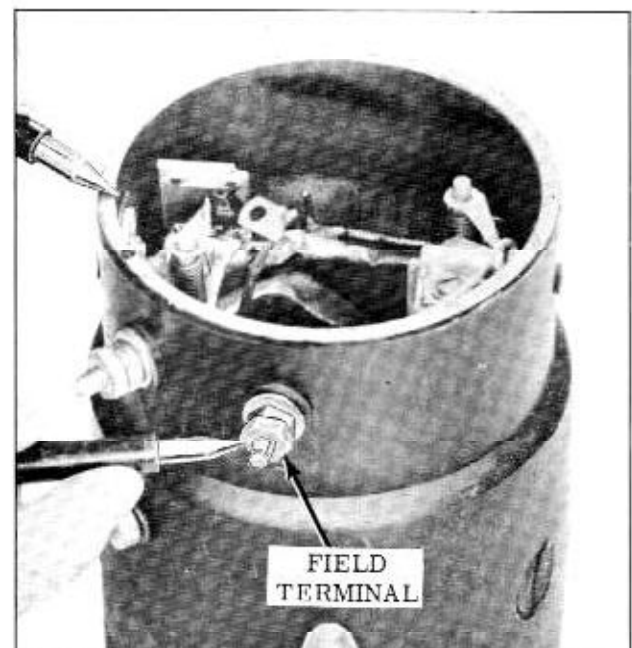

Fig. 13-25 Testing Fields for a Ground
8. Ground one lead of test lamp on frame and place other lead on field terminal. (Be sure free end of field wire is not touching frame and field terminal insulation is not broken.) (Fig. 13-25) If lamp lights, field coils are grounded. If ground in coils cannot be located and repaired, replace coils.